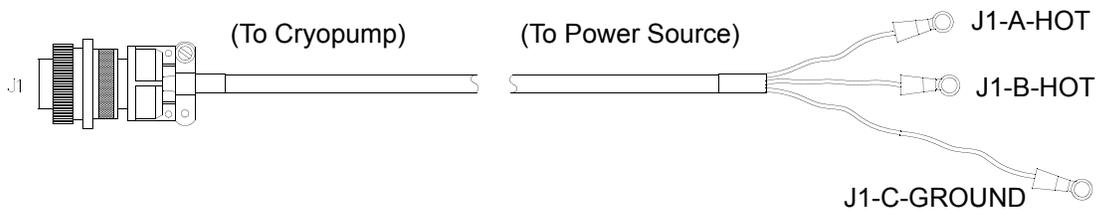

Figure 3-7: Input Power Cable
6. Connect the opposite end of the input power cable to a local 208 VAC, Single-Phase 5 Amp source as shown in Figure 3-7 on page 3-10.